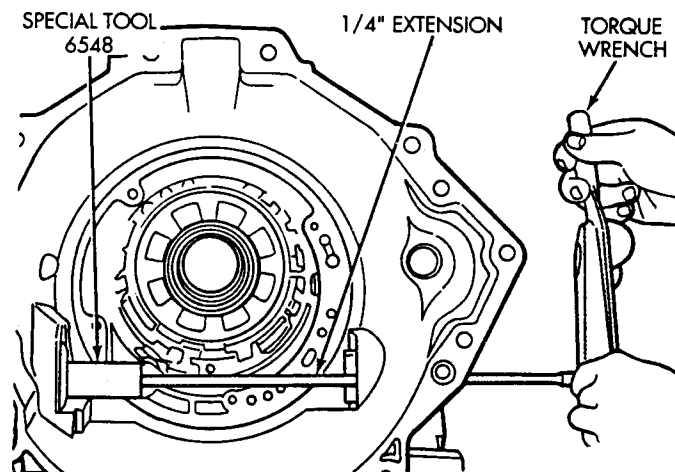

Fig. 21 Special Tool 6548
(24) Insert special tool 6548 (Fig. 21). This tool will be used to check turning torque of the differential assembly.